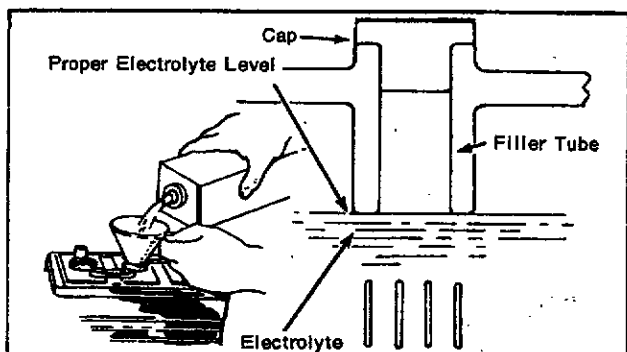

Figure 6
- Remove filler caps and fill battery with 1.265 specific gravity electrolyte acid to proper level. ALLOW BATTERY TO SET FOR 20 MINUTES (See Fig. 6).
BATTERY WATER LEVEL (See Fig. 6)